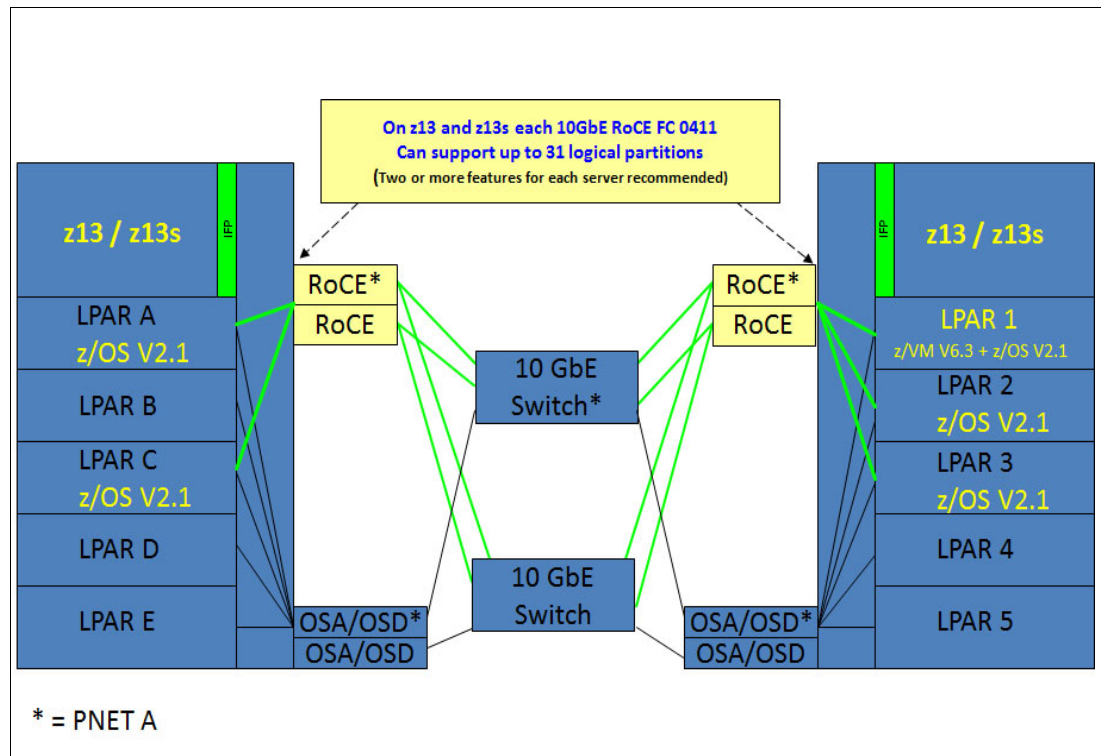
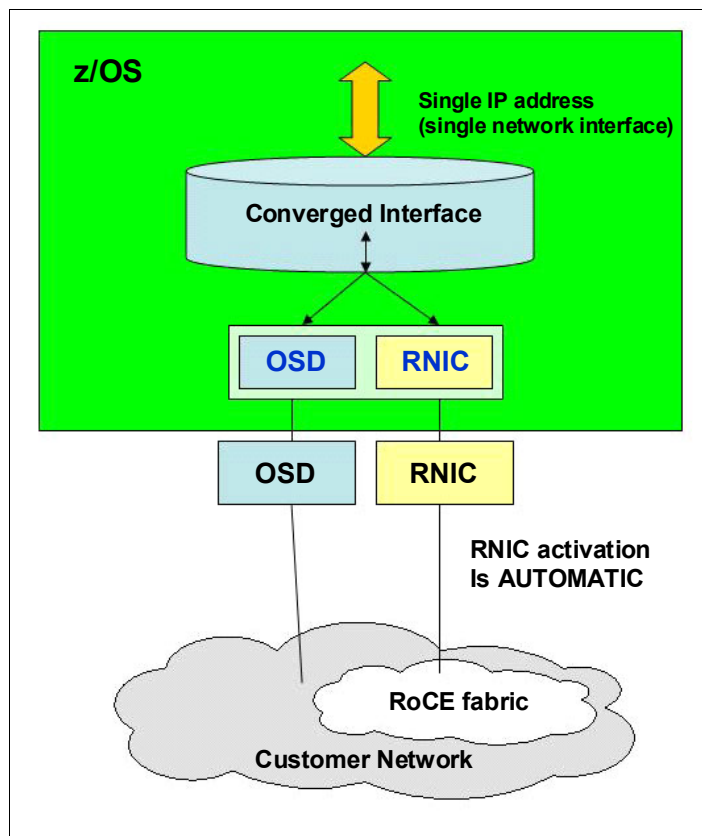

Figure D-5 10GbE RoCE Express sample configuration
Figure D-6 RNIC and OSD interaction
Figure D-5 illustrates a sample configuration that allows redundant SMC-R connectivity among LPAR A and C, and LPARs 1, 2, and 3. Each feature can be shared or dedicated to an LPAR. Like the sample configuration, two features per LPAR are advised for redundancy.
The configuration that is shown in Figure D-5 allows redundant SMC-R connectivity among LPAR A, LPAR C, LPAR 1, LPAR 2, and LPAR 3. LPAR to LPAR OSD connections are required to establish the SMC-R communications. 1 GbE OSD connections can be used
An OSA-Express feature, defined as channel-path identifier (CHPID) type OSD, is required to establish SMC-R. Figure D-6 shows the interaction of OSD and the RNIC. The Open System Adapter (OSA) feature might be a single or pair of 10 GbE, 1 GbE, or 1000Base-T OSAs. The OSA needs to be connected to another OSA on the system with which the RoCE feature is communicating. In Figure D-5, 1 GbE OSD connections can still be used instead of 10 GbE and OSD connections can flow through the same 10 GbE switches.
The following notes refer to Figure D-6:
- ▶ Required queued direct input/output (QDIO) Mode OSA connectivity between z/OS LPARs as shown in Figure D-5 on page 481.